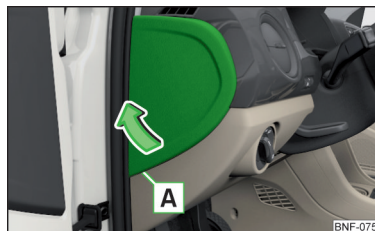

Fig. 136
- Insert a slotted screwdriver into the recess **A** in the cover » Fig. 136.